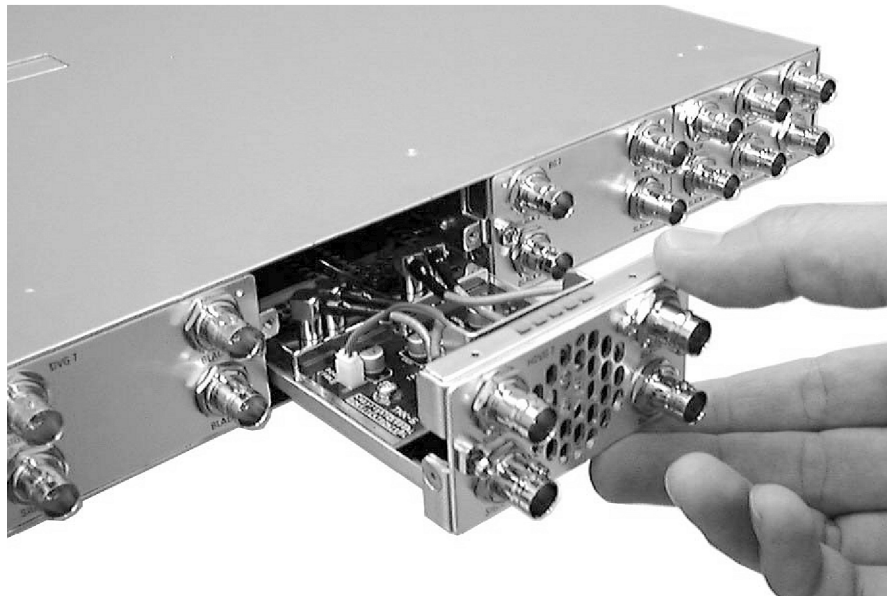

Figure 5: Installing the module
4. Insert the module into the slot, paying attention to the module orientation. (See Figure 5.) Push the module into the slot until the connector board of the module is firmly engaged with the Main board of the mainframe.